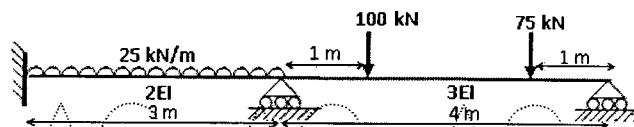

Figure: 2
- g) Determine the distribution factors of a beam supported and loaded as shown in figure 2. [2]